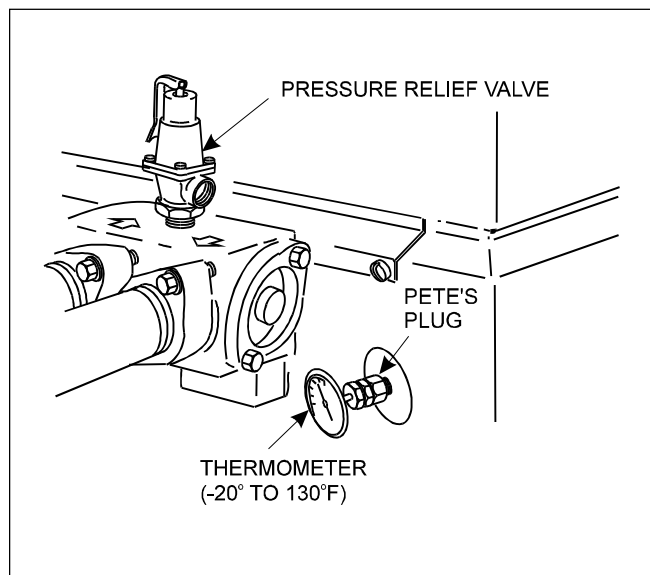

Figure 13. Thermometer and Pressure Relief Valve
To install a pressure relief valve, remove the 3/4 inch (19 mm) brass plug on the in/out header with the valve (see Figure 13). The setting of the valve should be at or below the lowest working pressure of filter system components.
4. Remove the drain plug located on the right-hand side of the heater and replace it with a Pete's plug (see Figure 13).
5. Insert a pocket thermometer (see Figure 13) through the Pete's plug into the header.
3. Insert a pocket thermometer (see Figure 13) through the Pete's plug into the header.